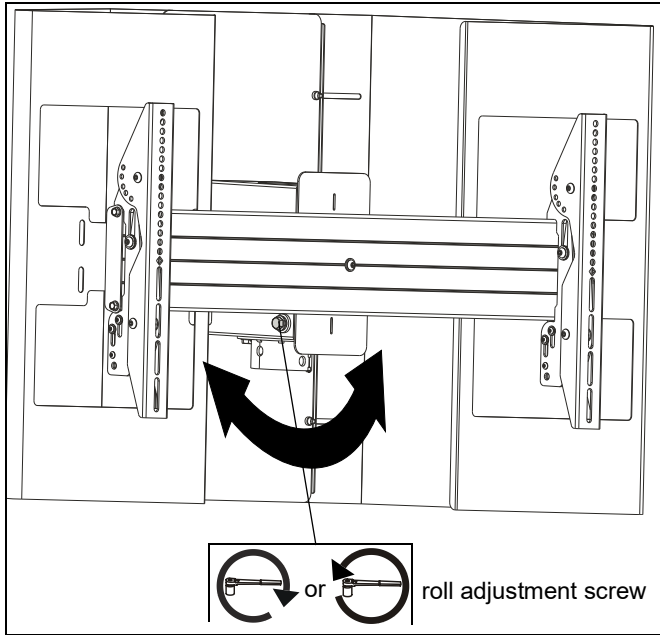

Figure 17
1. Adjust roll adjustment screw to change roll position. The roll may be adjusted 3° in either direction. (See Figure 17)